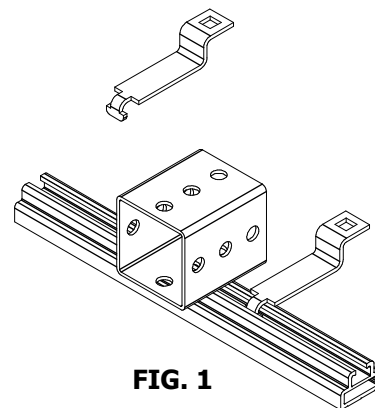
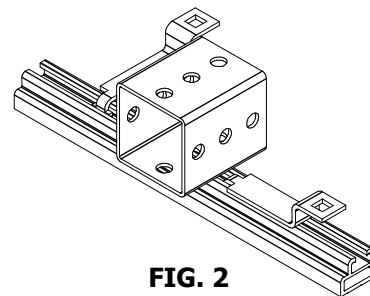
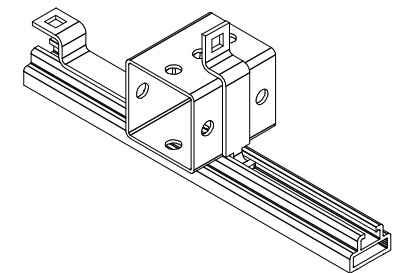

FIG. 1
FIG. 2
FIG. 3
- STEP 3** INSTALL THE SIGN BRACE POST CLAMPS AS SHOWN IN FIG. 1. INSERT TAB INTO SIGN BRACE THEN ROTATE SO THE CLAMP AS SHOWN IN FIG. 1 AND FIG. 2. LIFT CLAMP UP TO POSITION AGAINST THE POST AS SHOWN IN FIG. 3. REPEAT FOR SECOND CLAMP ON OTHER SIDE OF POST AS SHOWN IN TOP VIEW.